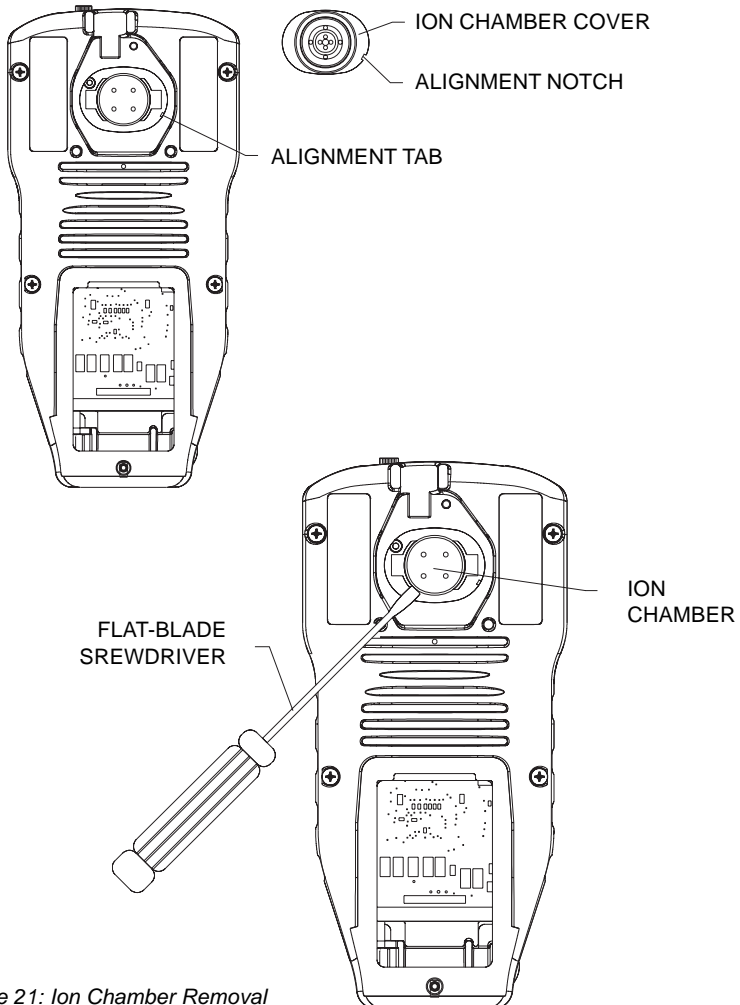

Figure 21: Ion Chamber Removal
3. Gently remove the ion chamber cover assembly (see Figure 21) from the instrument and set the assembly on a clean, lint-free surface.
4. Using a small, flat-blade screwdriver, gently remove the ion chamber from the cell holder and discard (Figure 21).